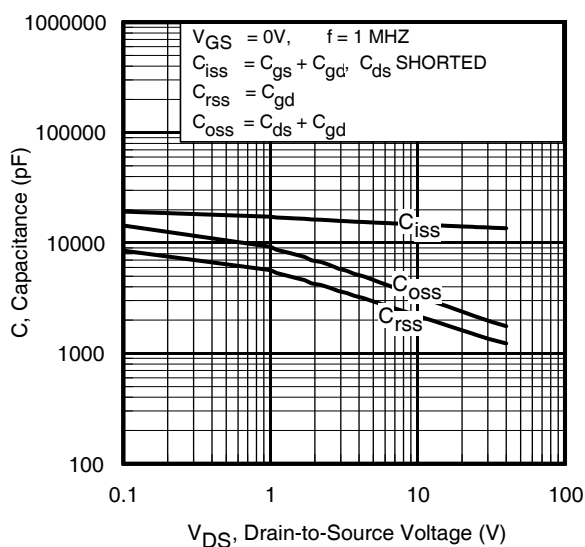
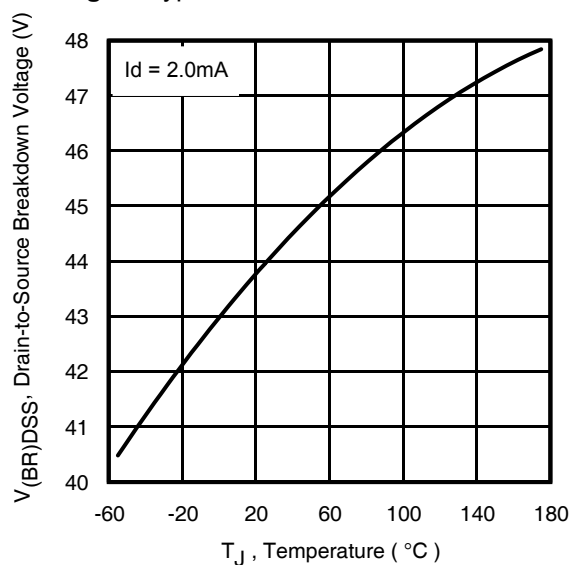

Fig 7. Typical Capacitance vs. Drain-to-Source Voltage
Fig 11. Drain-to-Source Breakdown Voltage
| C_{iss} | Input Capacitance | — | 13975 | — | pF | $V_{GS} = 0\text{V}$ $V_{DS} = 25\text{V}$ $f = 1.0\text{MHz}$, See Fig.7 $V_{GS} = 0\text{V}$, $V_{DS} = 0\text{V}$ to $32\text{V}^{\text{⑦}}$ See Fig.11 $V_{GS} = 0\text{V}$, $V_{DS} = 0\text{V}$ to $32\text{V}^{\text{⑥}}$ |